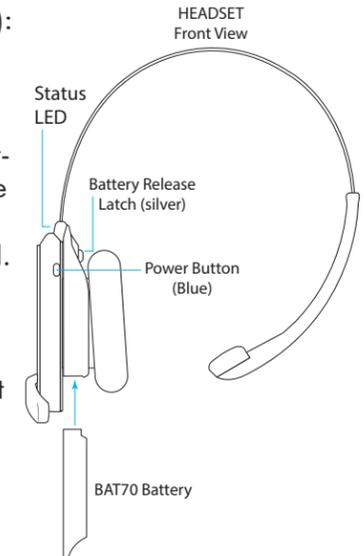

Fig. 3.3
- Install a charged BAT70 battery into the headset and press the power button to turn it on (see Fig. 3.3). The LEDs flash green and red.